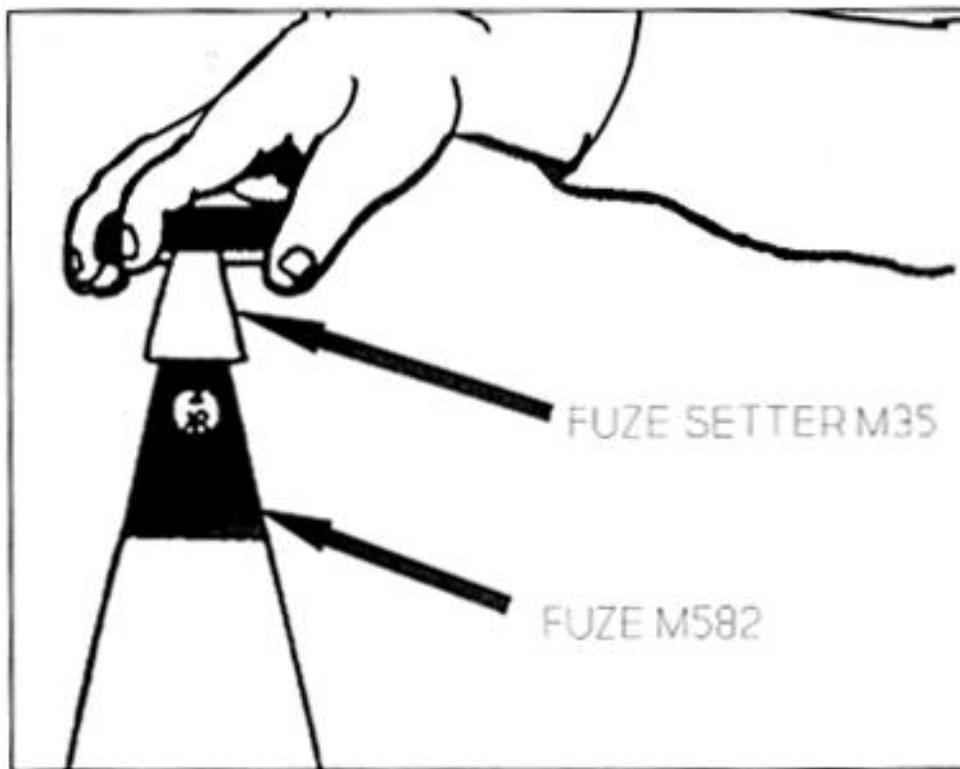

Figure 3-22. Fuze setter M35 on fuze M582
d. **Setting the M577 or M582 fuze.** The fuze setting key located on the nose (which looks like a slotted screwhead) controls the three dials in the fuze. This key is used for setting either the M577 or the M582 after it has been screwed into the projectile. Place the M35 fuze setter over the nose of the fuze. With the palm of your hand pressing the top of the fuze setter (Figure 3-22), rotate it counter-clockwise so the screwdriver-like blade in the cone of the setter engages the slot in the top of the fuze.